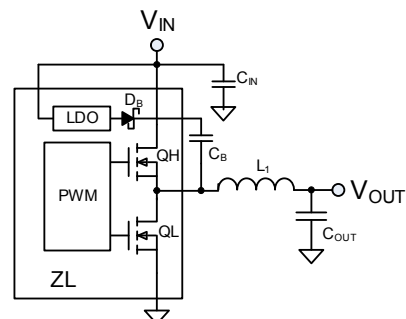

FIGURE 9. SYNCHRONOUS BUCK CONVERTER
Figure 9 illustrates the basic synchronous buck converter topology showing the primary power train components. This converter is also called a step-down converter, as the output voltage must always be lower than the input voltage.
The maximum conversion ratio is shown in Figure 9. Typically, buck converters specify a maximum duty cycle that effectively limits the maximum output voltage that can be realized for a given input voltage and switching frequency. This duty cycle limit ensures that the low-side MOSFET is allowed to turn on for a minimum amount of time during each switching cycle, which enables the bootstrap capacitor to be charged up and provide adequate gate drive voltage for the high-side MOSFET.
The gate drive voltage for the high-side MOSFET driver is generated by a floating bootstrap capacitor, C_B (see Figure 9). When the lower MOSFET (QL) is turned on, the SW node is pulled to ground and the capacitor is charged from the internal VR bias regulator through diode D_B . When QL turns off and the upper MOSFET (QH) turns on, the SW node is pulled up to VDDP and the voltage on the bootstrap capacitor is boosted approximately 6.5V above VDDP to provide the necessary voltage to power the high-side driver. An internal Schottky diode is used with C_B to help maximize the high-side drive supply voltage.